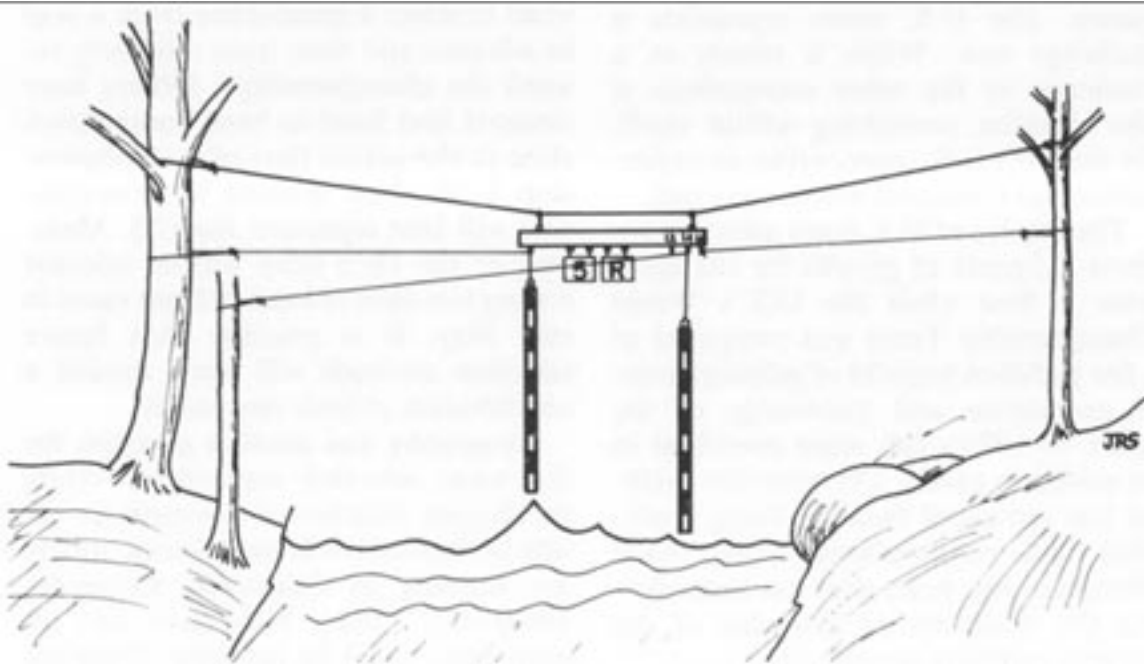

Figure 3. A typical slalom gate setting showing an assembled gate in place over a stream. Note the need for independent pole adjustments.
- a. Two pole-adjustment strings go to one bank, one pull string to the other bank (Figure 3). A pull string to the adjustment bank is not necessary.